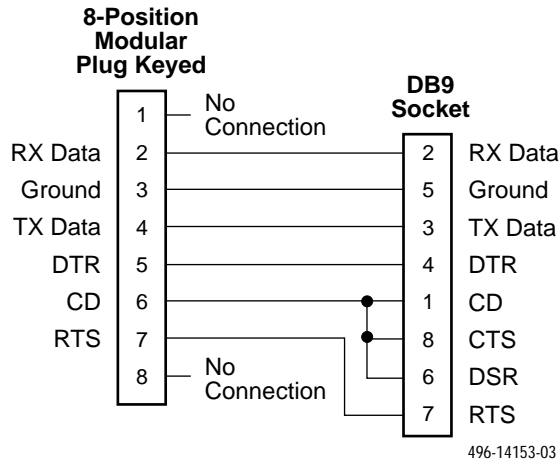

Figure B-4. COM Port-to-PC Cable
- COM port-to-PC cable. This cable is a 14-foot, 26 AWG, 8-conductor cable with an 8-position modular plug keyed connector and a DB9 socket connector (see Figure B-4).